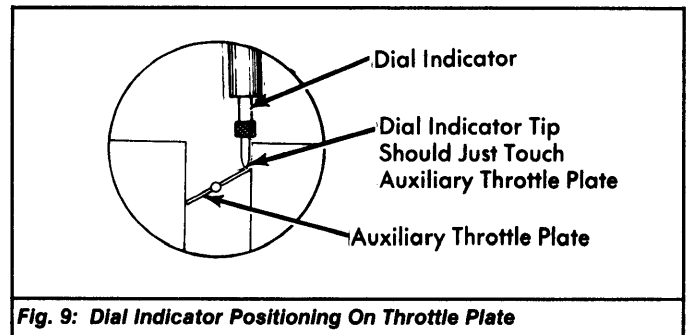

Fig. 9: Dial Indicator Positioning On Throttle Plate
2) Install dial indicator to holder. Loosen linkage adjustment screw lock nut. Tighten adjustment screw until primary throttle plate just opens. See Fig. 9.